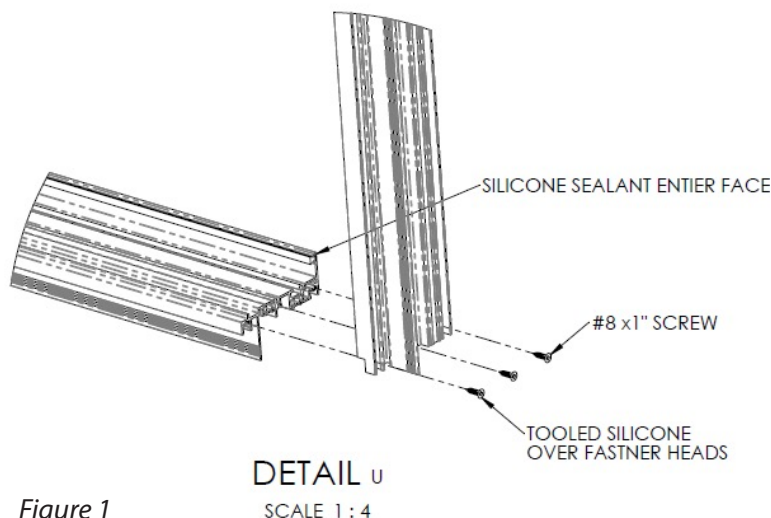

Figure 1
- From the topside of the sill, seal the vertical joint where the interior leg of the sill meets the jamb at 90 degrees. (See Figures 1 & 2).